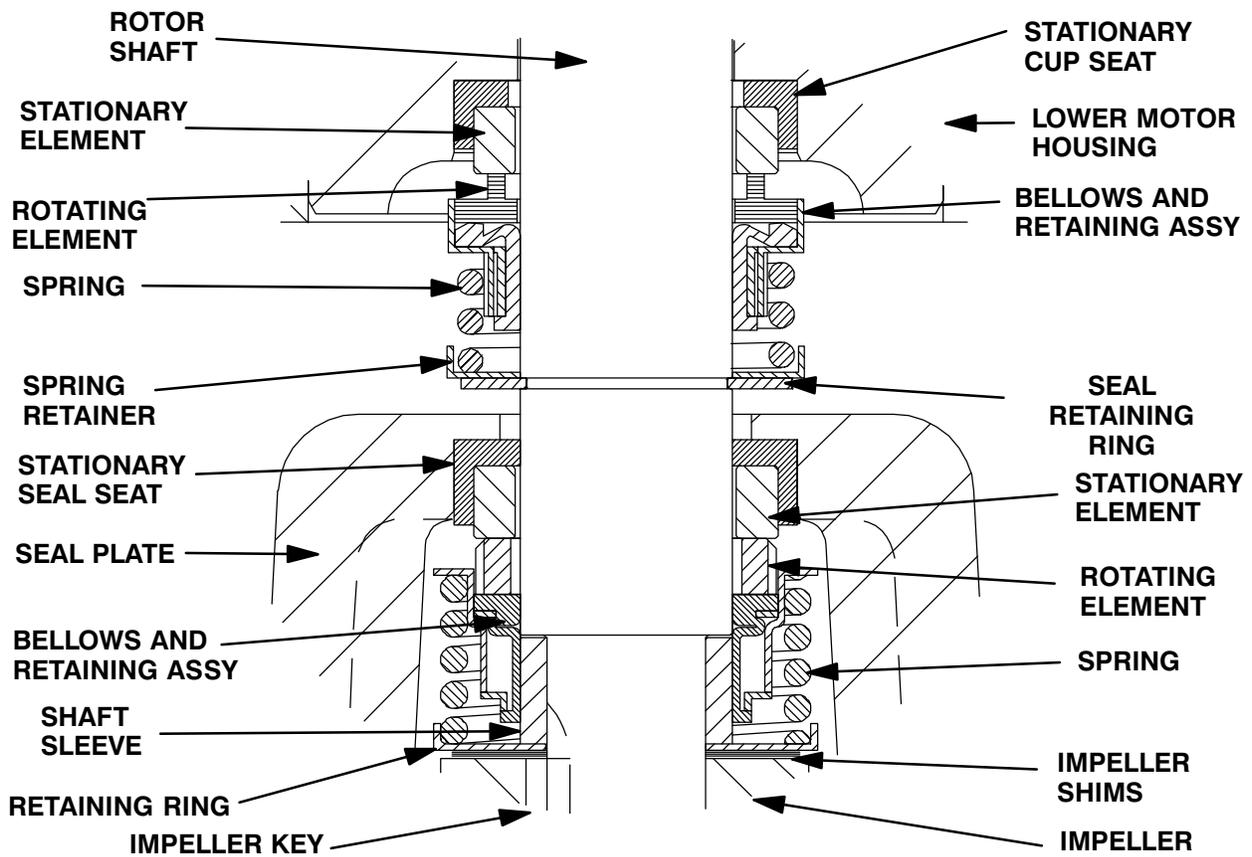

Figure C-4. Upper And Lower Seal Assemblies
Install the shaft seals as illustrated in Figure C-4.
Apply a **light** coating of oil to the seal seating surface on the shaft, the groove for the retaining ring (5), and I.D. of the bellows. Inspect the seal face to ensure that it is clean and dry. If cleaning is necessary, use a clean tissue to wipe in a circular pattern. Slide the seal rotating portion onto the lubricated shaft as shown in Figure C-4. Apply firm, steady pressure on the seal retainer until it slides down the shaft.
Slide the seal spring over the shaft and bellows retainer, and install the spring holder (64). Install the seal retaining ring (5). See Figure C-4 for the proper order of seal assembly.
Slide the seal spring over the shaft and bellows retainer. See Figure C-4 for proper order of seal assembly.